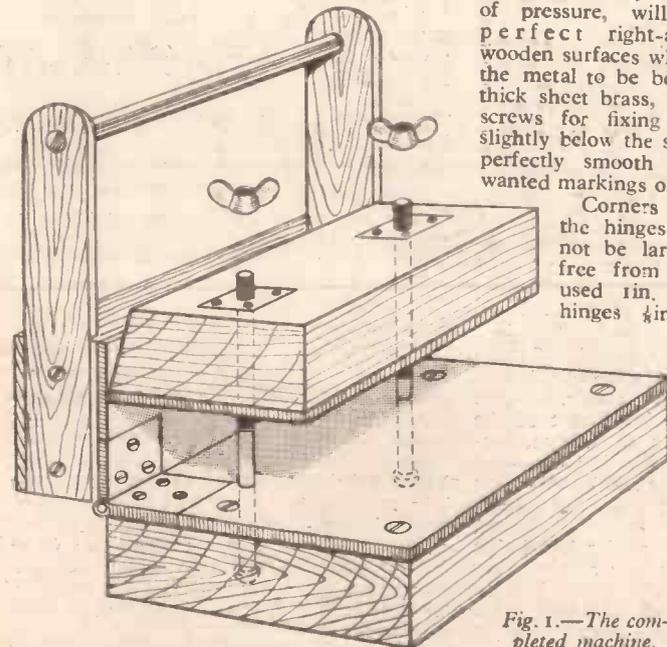

Fig. 1.—The completed machine.
The actual path of power at Dresden is shown in Fig. 1. The fuel building (A) contains facilities for the inspection and storage of new and spent nuclear fuel assemblies. In the reactor (B) heat, released by the fission of uranium, boils water in the core at a pressure of 1,000 p.s.i. and 545 deg. F. The boiling water rises to steam separating drum (C) where steam is routed to the turbine. Water separated from steam at 545 deg. F. flows to four secondary steam generators (D) where more steam, produced at 500 p.s.i. and 467 deg. F., is routed to the turbine (E). Heat energy in the 1,000 and 500 p.s.i. steam supply is converted to mechanical energy when high velocity steam rotates the turbine shaft at 1,800 r.p.m. The
The machine illustrated in Fig. 1 is 2ft. long overall and will bend metal up to 20 3/4 in. wide. If a much larger span is intended the thickness of the wooden bascs, size of the hinges and diameter of bolts should be revised.